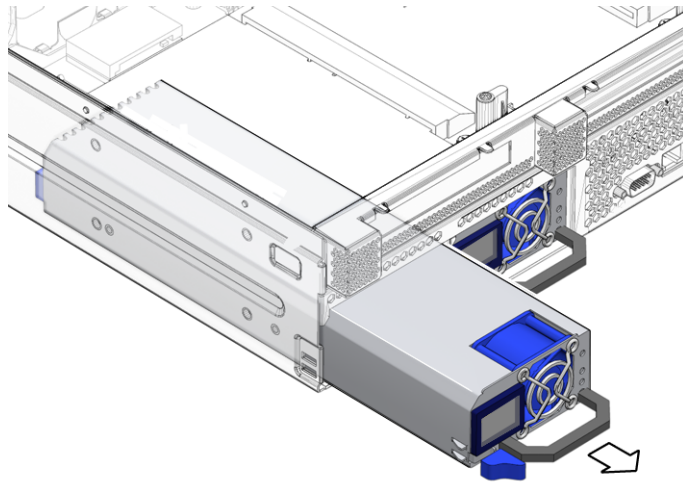

FIGURE 5-6 Removing a Power Supply
5. Pull the power supply out of the chassis (FIGURE 5-6).